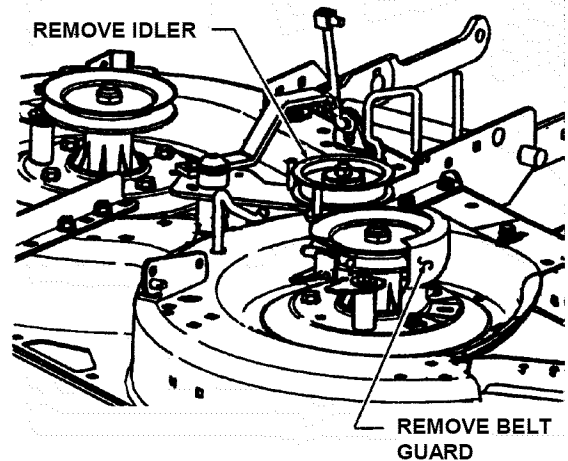

FIGURE 4.40
4. Remove spindle belt guard and tension idler. See Figure 4.40.